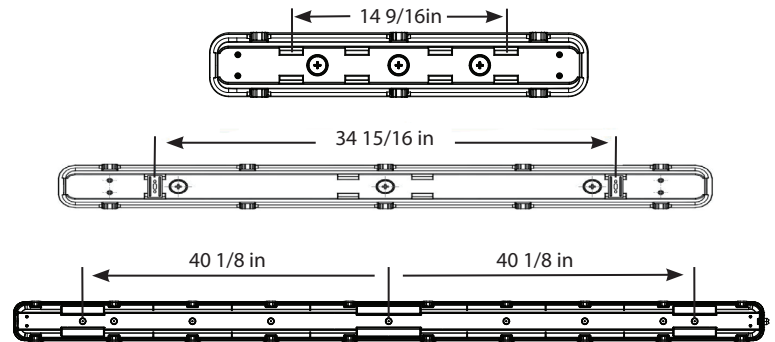
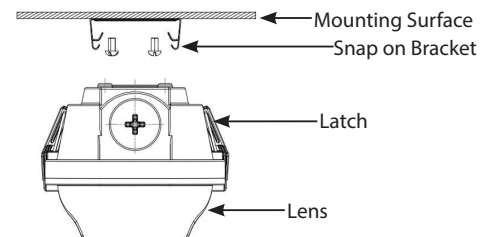
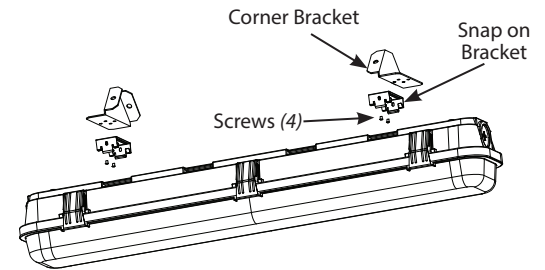

Fig: 1
Fig: 3
Fig: 5
1. Use appropriate mounting hardware (*not supplied*) to secure the **Snap on Brackets** to mounting surface. Refer to recommended **Snap on Bracket** spacing in Fig. 1 for SEAL 2ft, SEAL 4ft and SEAL 8ft.
WARNING: Mount Snap on Brackets symmetrical about the center as shown in Fig. 1. Snap on Brackets must be aligned with each other to secure Housing.
8. Snap **Housing** on **Snap on Brackets** as shown in Fig. 3.
1. Snap **Housing** on **Snap on Brackets** as shown in Fig. 3.
Ordered separately - Fig. 5 & 6:
1. Use appropriate mounting hardware (not provided) to secure the **Corner Brackets** (2) to the mounting surface as shown in Fig 5. **Corner Brackets** must face towards each other. Recommended **Corner Bracket** distance center to center is 14-13/25" for SEAL 2ft and 34-19/20" for SEAL 4ft & SEAL 8ft.
2. Secure (2) **Snap on Brackets** (supplied standard with Housing) to **Corner Brackets** (2) with **Screws** (4 provided).
3. Snap **Housing** on **Snap on Brackets** (2) as shown in Fig. 3, Page 1. Ensure that the **Housing** is secure on **Snap on Brackets** (2) onto the grooves on **Lens** as shown in Fig. 1, Page 1.